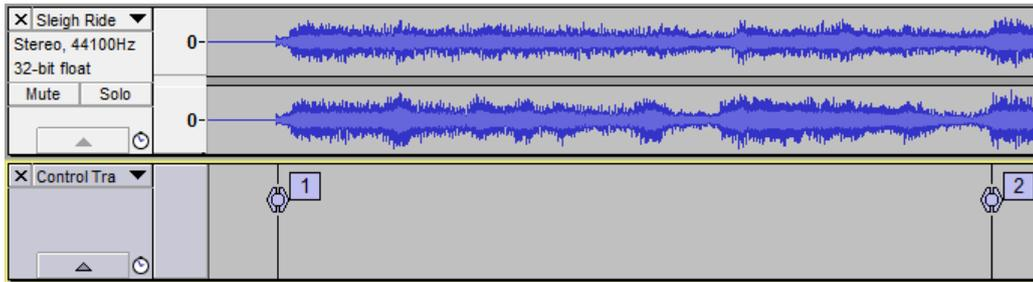

Figure 2-11, Expanded View of Tracks – repositioned labels
- 11) Move the mouse over the centre of a label icon, which will change to white to show that it is selected. Click and drag the two labels so that they occur at chosen points on the audio waveform, as shown in figure 2-11.